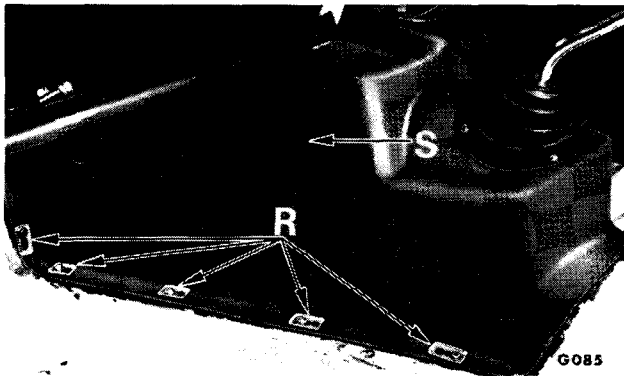

Fig. 7. Gearbox cover attachments
Release the twelve screws and plates (R) and remove the gearbox cover (S) (Fig. 7).